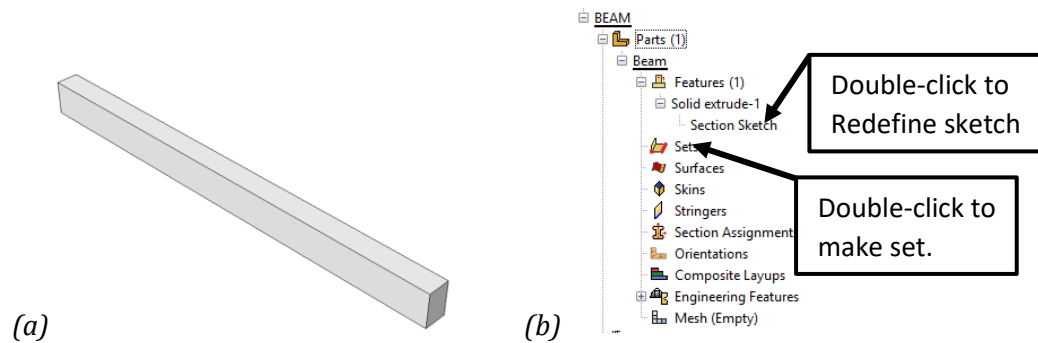
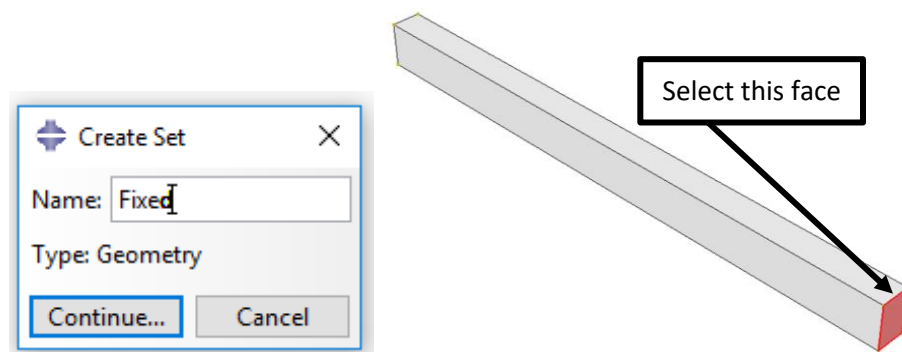

Figure 1-8 – Extruded part and Model Tree.
Figure 1-9 – Create Set dialog box and selected face for the set “Fixed”.
7. Abaqus/CAE displays an isometric view of the new part, as shown in Figure 1-8(a). The **Part Beam** is now added to the **Model Tree** in Figure 1-8(b). If you want to do any changes to the sketch, double-click on **Section Sketch** (See Figure 1-8(b)).
8. It is often convenient to define particular regions of the model to different sets. Loads and BC can then be added to these sets. It is also possible to extract values (Force/Displacement/ect.) from a set using History Output. In the **Model Tree** under **BEAM** → **Parts** → **Beam**, double-click **Sets** (See Figure 1-8(b)). Name this set **Fixed** and click **Continue...** in the **Create Set** dialog box. Select the left face of the model, as shown in Figure 1-9. Use the **Rotate View** tool (🔄) in order to rotate the model.